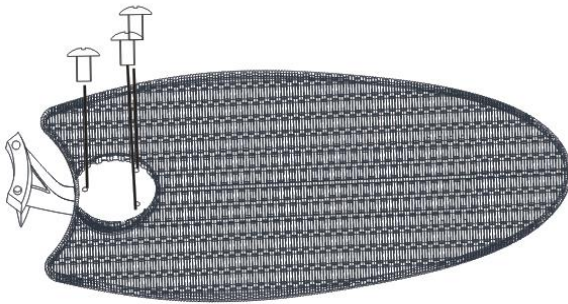

Fig. 6
2. Assemble the blades and blade holders using the screw set. (Fig. 6)